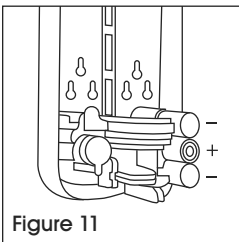

Figure 11
3. Use three high-quality C-cell alkaline batteries (not included). (See Figure 11)